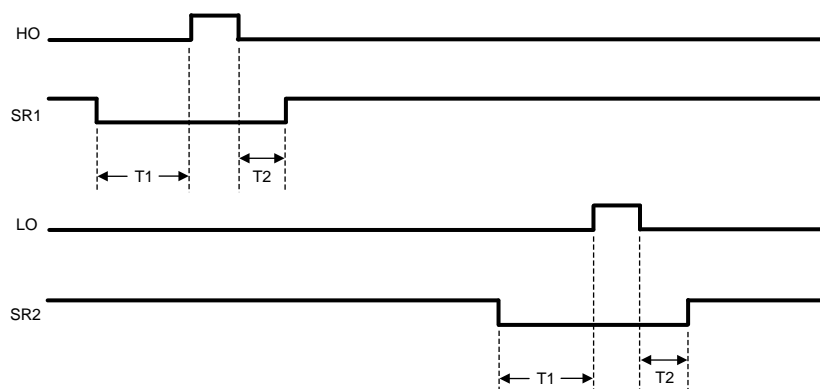

Figure 14. HO, LO, SR1 and SR2 Timing Diagram
Synchronous rectification (SR) of the transformer secondary provides higher efficiency, especially for low-output voltage converters. The reduction of rectifier forward-voltage drop (0.5 V – 1.5 V) to 10 mV – 200 mV V_{DS} voltage for a MOSFET, significantly reduces rectification losses. In a typical application, the transformer secondary winding is center tapped, with the output-power inductor in series with the center tap. The SR MOSFETs provide the ground path for the energized secondary winding and the inductor current. Figure 14 shows that the SR2 MOSFET is conducting while HO enables power transfer from the primary. The SR1 MOSFET must be disabled during this period, because the secondary winding connected to the SR1 MOSFET drain is twice the voltage of the center tap. At the conclusion of the HO pulse, the inductor current continues to flow through the SR1 MOSFET body diode. Because the body diode causes more loss than the SR MOSFET, efficiency can be improved by minimizing the T2 period, while maintaining sufficient timing margin over all conditions (component tolerances, and so on) to prevent shoot-through current. When LO enables power transfer from the primary, the SR1 MOSFET is enabled, and the SR2 MOSFET is off.
The timing of SR1 and SR2 with respect to HO and LO is shown in Figure 14. SR1 is configured out-of-phase with HO, and SR2 is configured out-of-phase with LO. The dead time between transitions is programmable by a resistor connected from the DLY pin to the AGND pin. Typically, R_{DLY} is set in the range of 10 kΩ to 100 kΩ. The dead-time periods can be calculated using Equation 4 and Equation 5:
The R_{DLY} resistor programs the delays between the SR1 and SR2 signals and the HO and LO driver outputs. Figure 14 shows the relationship between these outputs. The DLY pin is nominally set at 2.5 V and the current is sensed through R_{DLY} to ground. This current is used to adjust the amount of dead time before the HO and LO pulse (T1) and after the HO and LO pulse (T2). Typically R_{DLY} is in the range of 10 kΩ to 100 kΩ. The dead-time periods can be calculated using Equation 7 and Equation 8: